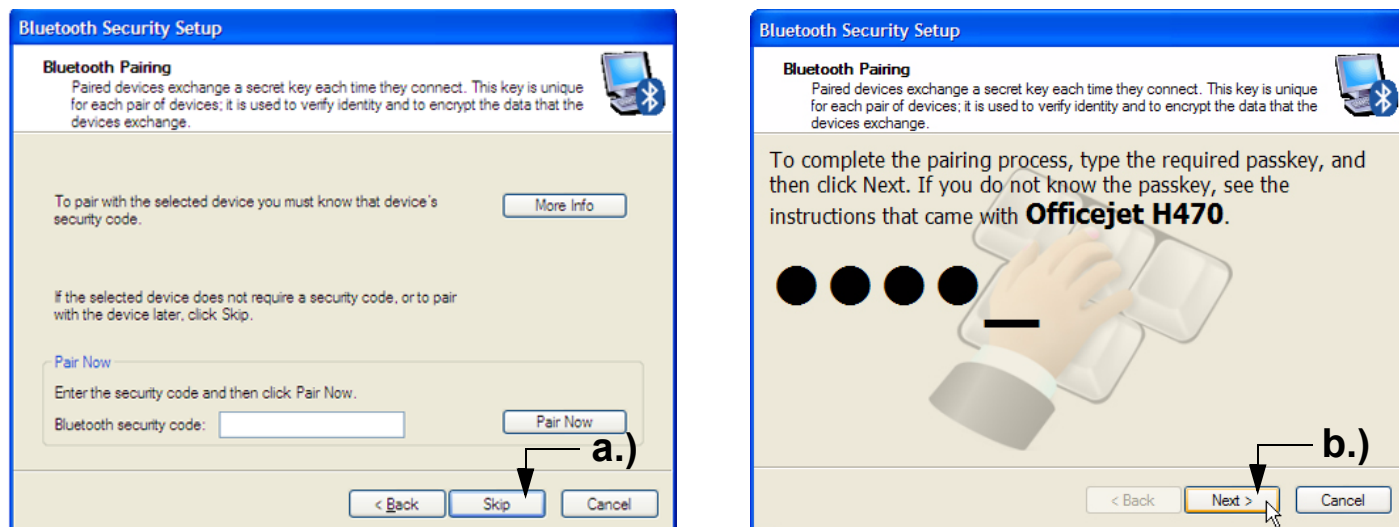

Figure 3-34 Bluetooth Security Setup
11.) The appearance of the "Bluetooth Security Setup" window (Figure 3-34 below) depends on your printer.